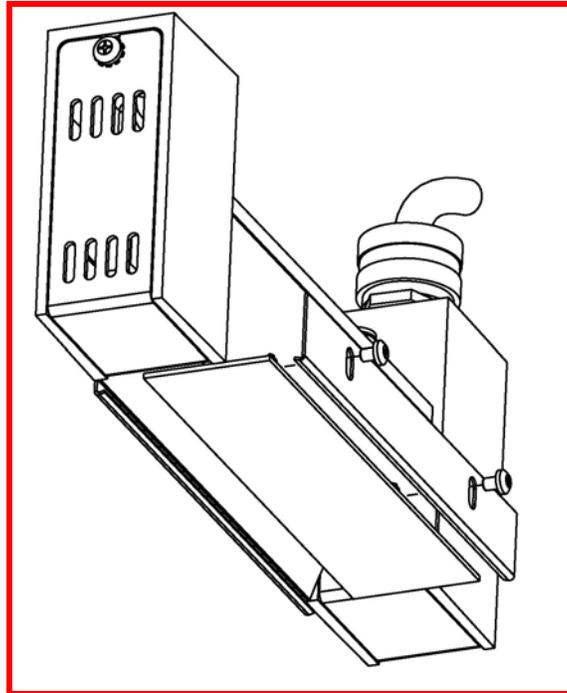

Figure 6-2. Model 5306 Quartz Window Removal.
3. If installed in the heater, remove the quartz window from the heater by removing the screws on the window brackets, and carefully set the window aside (see Figure 6-2). Take this opportunity to clean the window using non-abrasive cleaning solvent and clean, soft cotton cloth (see Section 6-2).